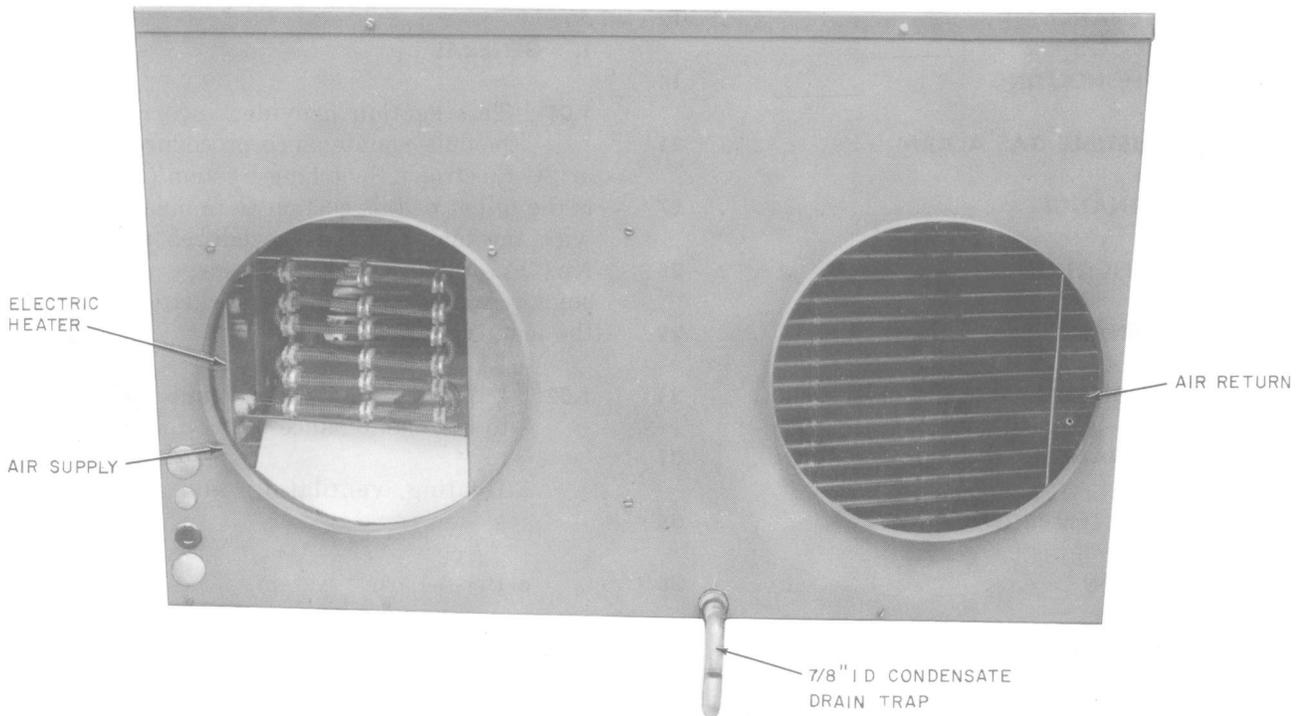

Fig. 1—Carrier Cooling Unit (Rear View) Model 50MH048-411
2.01 The heating, ventilating, and air conditioning (HVAC) of the No. 2A or 2C ESS is provided by a commercially available Carrier* unit, model number 50MH048-411. The HVAC is a complete system, with the addition of a 7.5 kW accessory electric heater (Fig. 1). The HVACs are air-cooled,
2.09 Condensate Drain: The condensate drain (Fig. 1) is provided with each HVAC unit. The condensate drain must be installed for proper operation and should be free of debris. The condensate drain trap, if plugged, may be cleaned with a bottle brush, then flushed. The condensate pan, located beneath the evaporator coil, should be flushed with clean water to remove any debris.